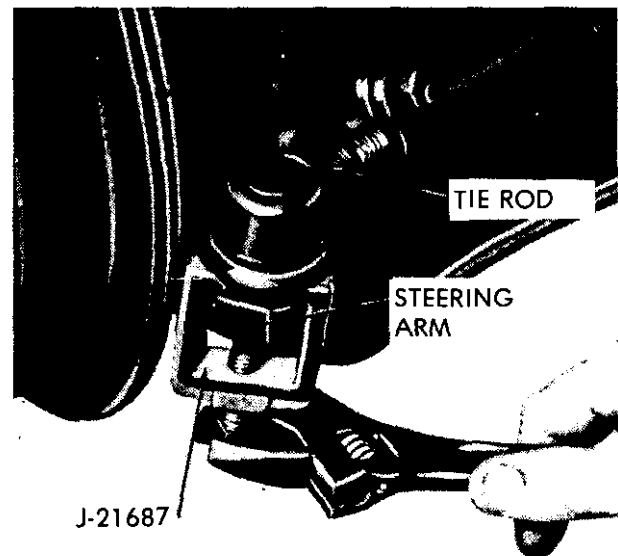

Figure 3B-2 Removing Ball Stud
2. Using remover J-21687, pull out tie rod ball studs out of steering arms. See Figure 3B-2.
3. Remove clamp securing one end of rubber bellows to tie rods and slip bellows off tie rods to expose nut or lock plates. See Figure 3B-3.